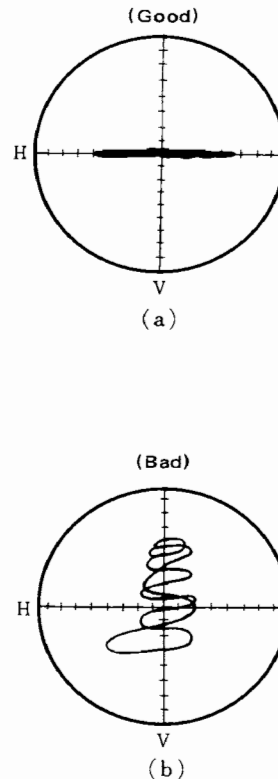

Fig. 4 Multipath wave form
Pick up FM-IF signal from IF amplification final stage which contains comparatively larger AM component and apply this signal to the vertical axis (V) of an oscilloscope applying the output signal of a tuner to the horizontal axis (H) in order to make them draw a resurgence, then, a multipath waveform shown in Fig. 4 can be obtainable.